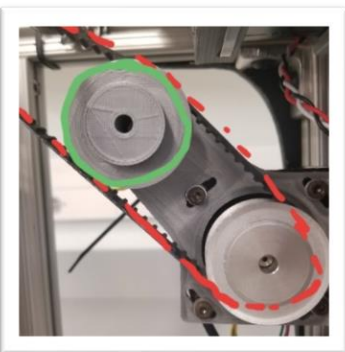

Fig 13.a
2. Rotary Encoder Engagement {Fig 13.a}